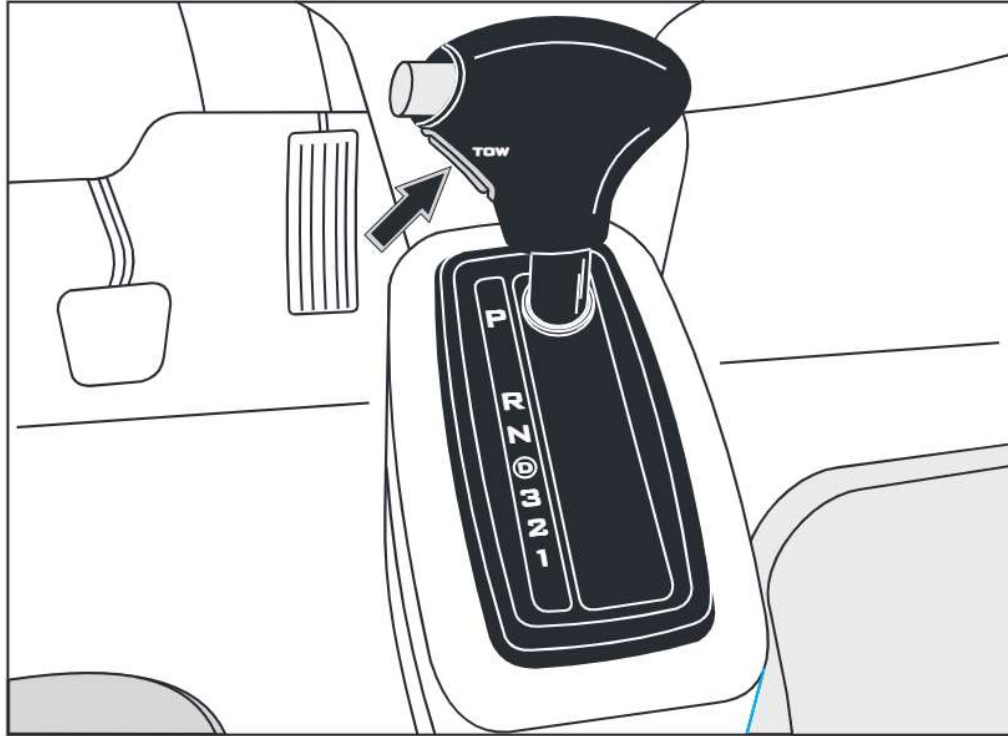
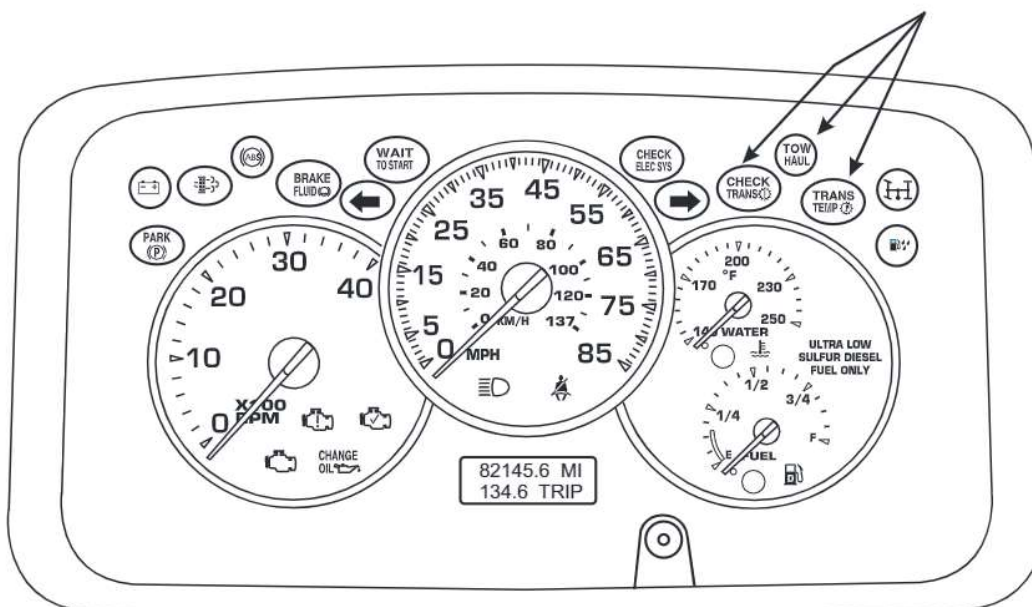

Figure 95
Figure 96
Ford/International Medium Truck LCF series, equipped with the 5R110W transmission, are capable of Diagnostic Trouble code retrieval through a manual process that does not require a scan tool. Refer to the information in Figures 93 and 94 for this procedure. Since the Tow Haul Switch will be used in the code retrieval process, its location can be seen in Figure 95. The 3 lamps in the instrument cluster that display the retrieval sequence as well as the 3 digit flash codes can be seen in Figure 96.
STEP 3: Place Shift Selector in "2" Position (See Figure 95)
STEP 4: Press Tow/Haul switch 4 times within 4 seconds, this will initiate Manual Code retrieval. (See Figure 95)
STEP 5: The Check Trans, Trans Temp and Tow/Haul all turn ON simultaneously to indicate diagnostic mode has been entered. (See Figure 96)